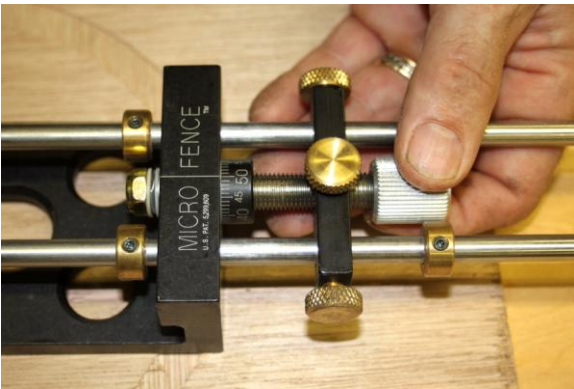

Fig. 5
- D. Using the circle cutting jig's micrometer, increase the router's cut diameter by this number (Fig. 5). Each full turn of the micrometer is equal to .05 of an inch. Divide number found in 2C by .05